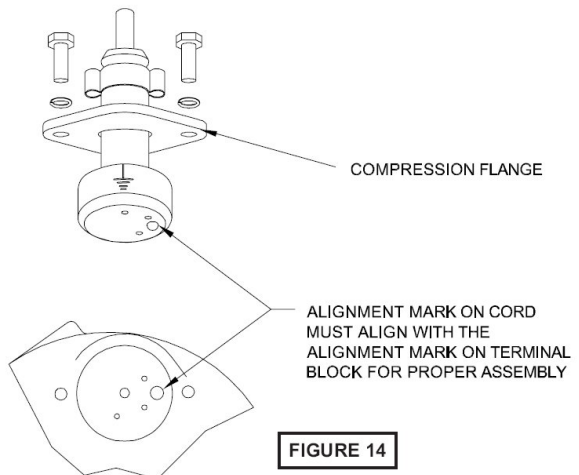

FIGURE 14
Power Cord - Refill the cooling oil as outlined in paragraph F-1.3. Make wire connections as outlined in paragraph F-4.3. Insert female end of cord plug into housing bore aligning timing mark with hole in terminal block (17) see Figure 14. Compress cord plug with compression flange (14) by tightening hex bolts (10) into the housing (5). Torque to 132 in-lbs.